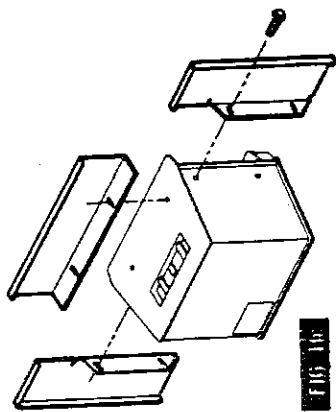

FIG. 16
- Mount the trim panels using a 3/8" or adjustable wrench and the (6) 1/4-20 self threading screws provided. (Fig. 16).